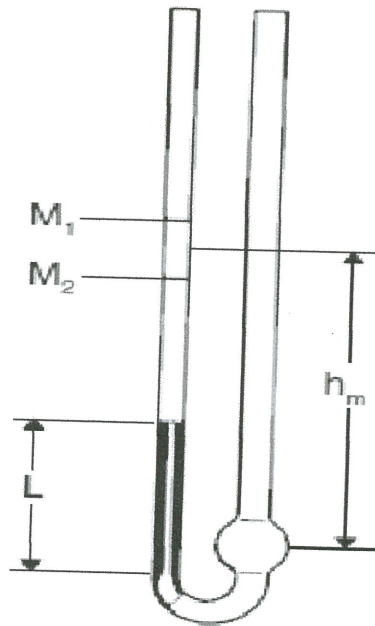

FIGURE Q3
- Q3 (a) An Oswald tube glass viscometer shown as in **FIGURE Q3**, has been used to analyze the viscosity of a certain lubricant with the following **Table Q1** .